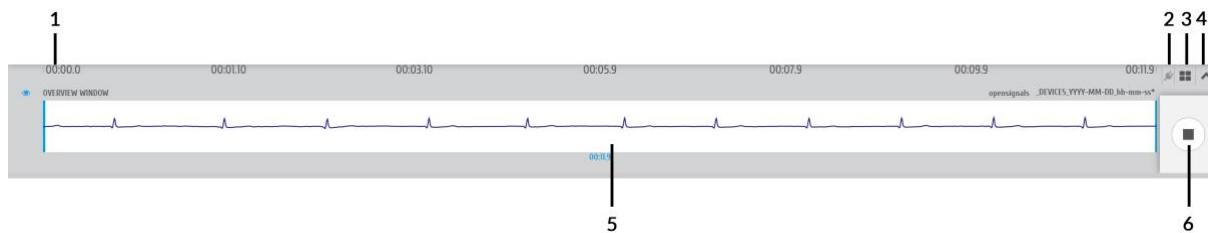

Figure 65: Control bar.
- Time axis (x-axis; 1 in Figure 65)
- Access *OpenSignals* add-ons (2 in Figure 65)
- Multi-channel visualization modes (3 in Figure 65)
- Hide/Unhide all channels (4 in Figure 65)
- Overview window (x-axis adjustments; 5 in Figure 65)
- Return to *OpenSignals*' main interface (6 in Figure 65)